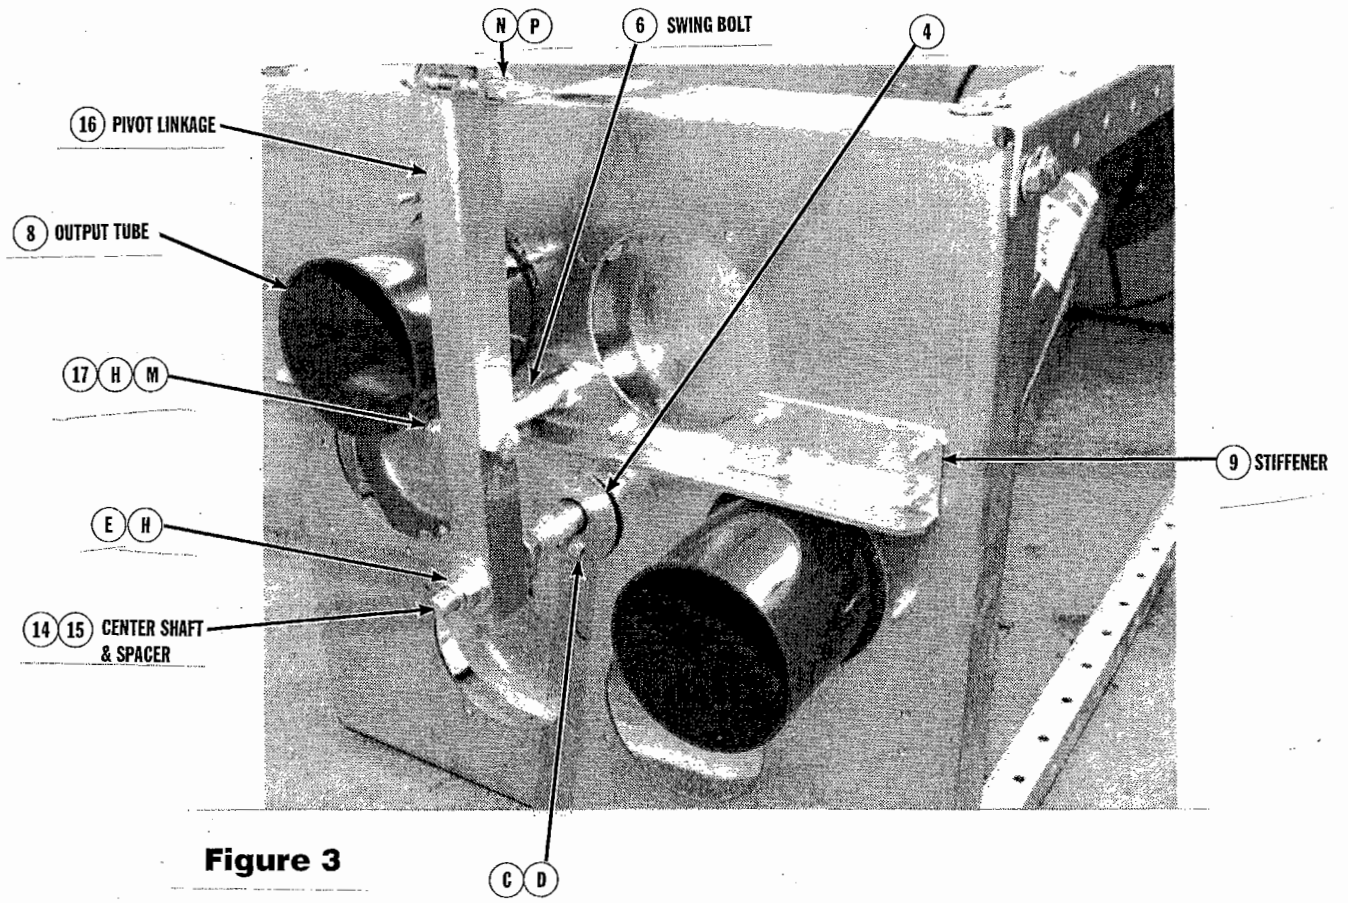

Figure 3
4. Install stiffener (item 9) to output base using 1/4 x 1" hex-flange whiz-lock bolts and nuts (hardware items C and D) in two holes on each end of stiffener (remaining bolts to be installed in step 9).
5. Install threaded swing bolt (item 6) through stiffener and output base, locking in place with 5/8" flat washer (item F) and 5/8" hex nut (item G). Ensure that the swing bolt through-hole is oriented to serve as a pivot point for linkage. See figs. 3 and 6.